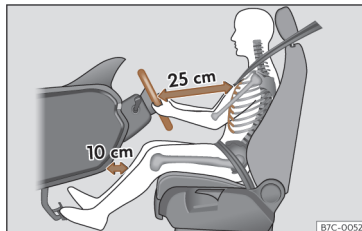

Fig. 6 The correct distance between the driver and the steering wheel must be at least 25 cm (10 inches).
- Move the steering wheel so it is at least 25 cm (10 inches) away from the steering wheel»» Fig. 6 and you can hold it with both hands on both sides, on the outer part, with your arms slightly bent.
bent and with a distance between the knees and the dashboard of at least 10 cm (4 inches)»» Fig. 6.